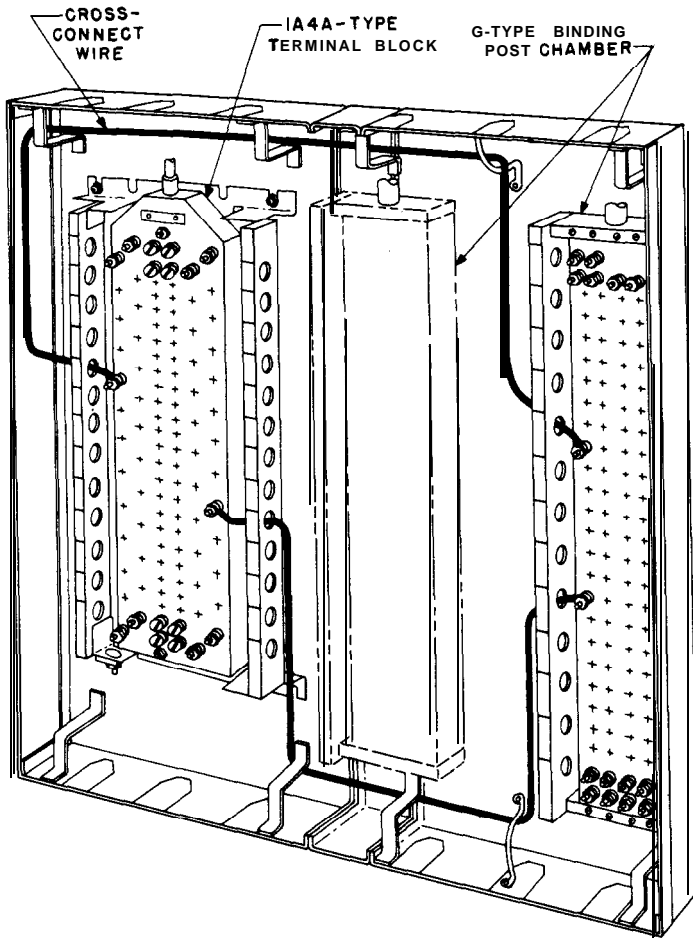

Fig. 13 -Cross Connecting in Fuseless-type Protected Terminals
9.01 Terminal blocks 1A3A and 1A4A, identical in appearance, are similar to the NH-type cable terminal. Fig. 13 and 14 show protected terminal block 1A4A-26 wiring arrangement when mounted in 1A1 and 2A1 terminal sections.